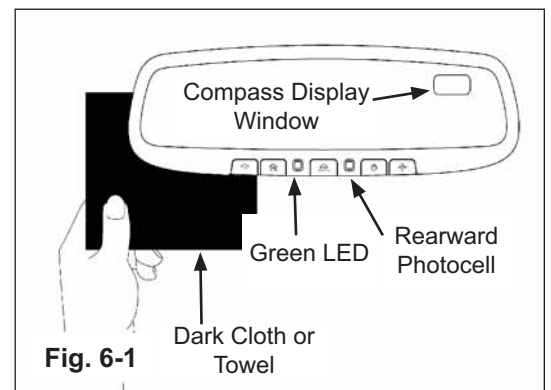

Fig. 6-1
- a) To make sure the auto-dimming feature is on, verify that the green LED to the left of the center switch is on. If it is not on, push the  switch to turn the green LED on. Cover the forward looking photocell on the back of the mirror with a dark cloth or towel. (Fig. 6-1)